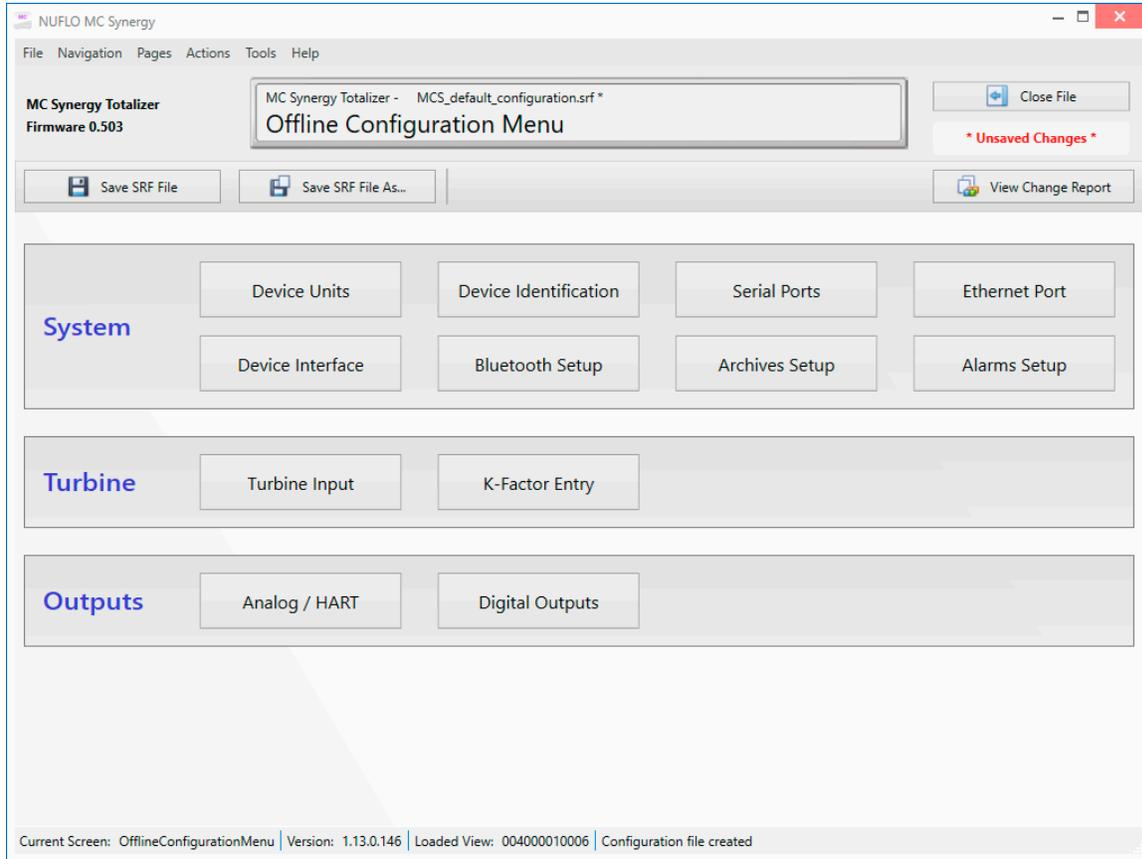

Figure 5.7—Offline Configuration menu
4. From the Offline Configuration Menu (Figure 5.7, page 38), select an item from the grid of System, Turbine, and Outputs submenus.
8. When your configuration selections are complete and saved, return to the main Offline Configuration Menu screen and click one of the Save SRF File buttons in the top left corner of the screen (Figure 5.7).